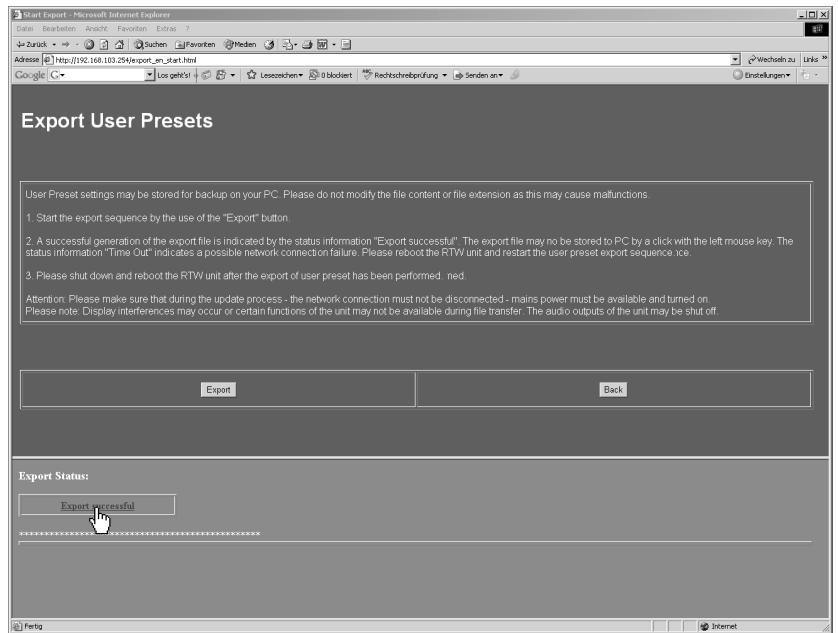

Fig. 8-15: The export file has been generated and can be saved
5. When the **Export Status** turns to the blue labelled "Export succesfull" (see Fig. 8-15) the export file can be saved. Please click **Export succesfull**.